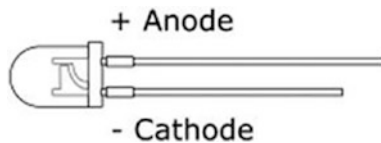

Figure 4-4. LED polarity
3. Connect the LED cathode to the same rail as the resistor. The cathode is the pin closest to the flat side of the LED. On some LEDs, this pin is shorter than the other pin (see Figure 4-4).